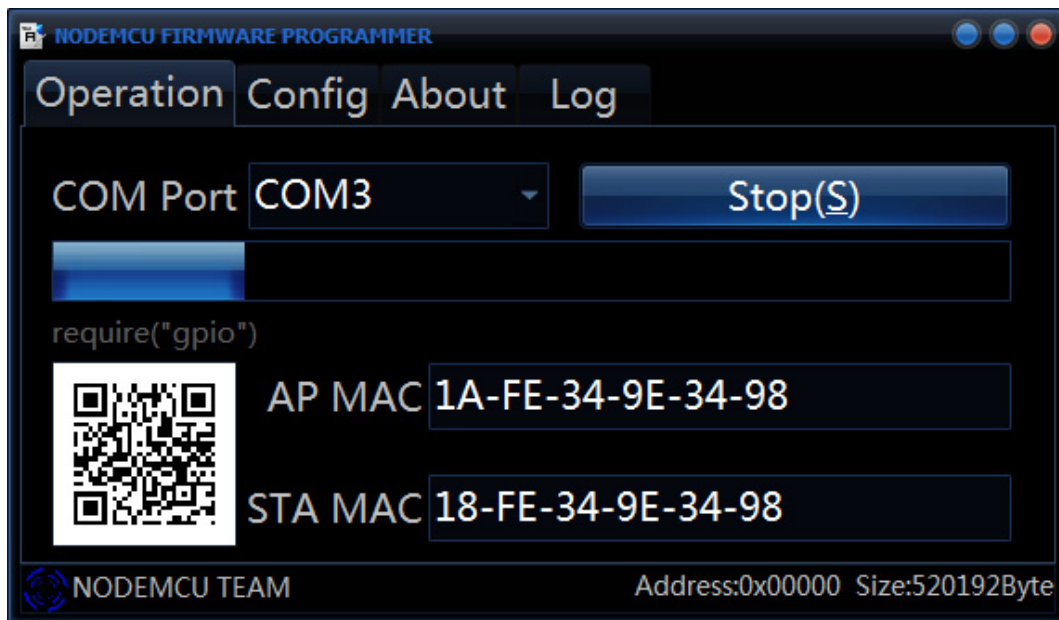

FIGURE 11 – Firmware update in progress
4. - Go back to the “**Operation**” screen and press the “**Flash**” button. The process will take a few seconds; the MAC values will be populated during the process (**figure 11**). The blue LED in the ESP board will blink while the communication is active.